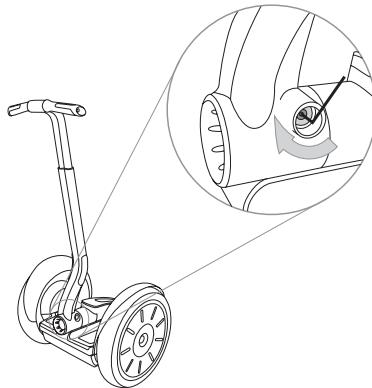

Figure 32. Tighten Fastener Holding LeanSteer Frame in Place
6. Tighten the fastener to 11.0 N·m (8.1 ft-lbf). See **Figure 32**.